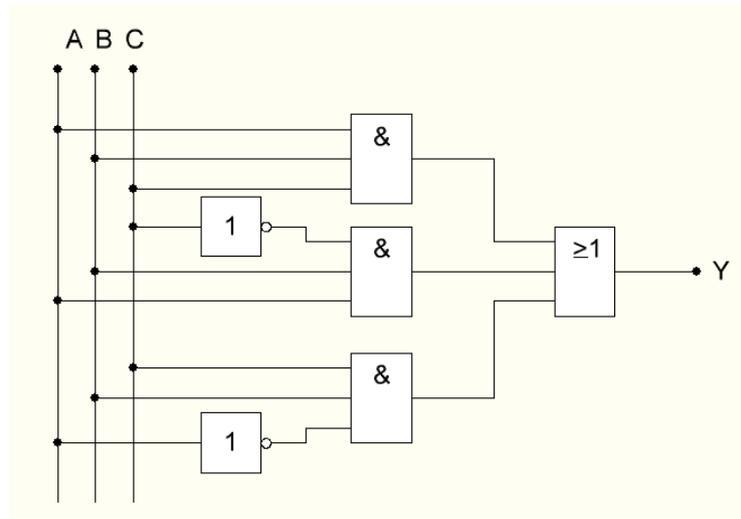

Figure 2.3.1: Schematic diagram of the logic function
2.3.1) The schematic diagram of the logic function is shown in Figure 2.3.1.
The logic function presented in a schematic diagram shown in Figure 2.3.1 is described by the following equation and truth table: